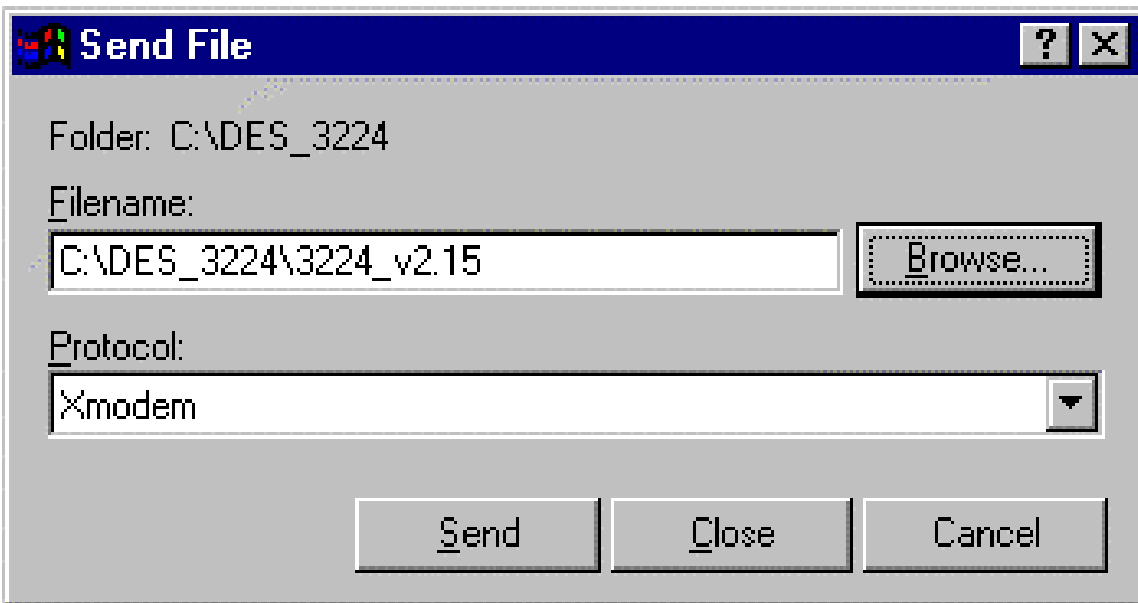

Figure 17: Send File
5. Select Browse on the panel displayed in Figure 17. The browse option shows the contents of your hard drive. You must specify the path from the DES-3224 to the file the firmware is in. Navigate to the file the firmware is stored in and select it. Use XMODEM to transfer the file.
6. The panel, displayed in Figure 17, will display statistics about the transfer, including the elapsed time and the time remaining.